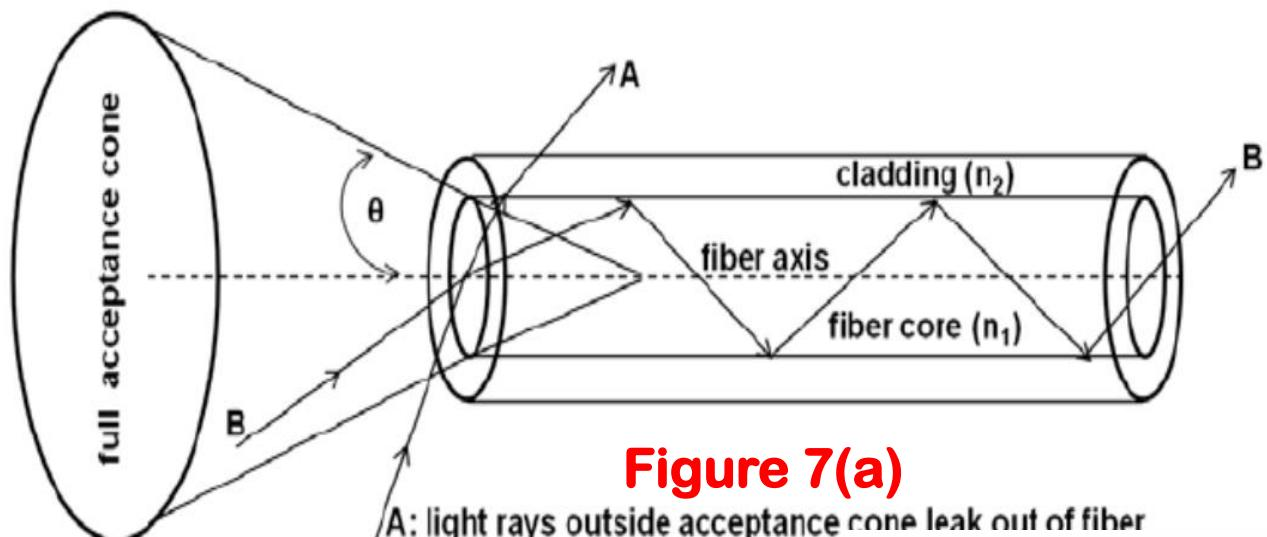

Figure 7(a)
- In 3D, the light rays, contained within the core having a full angle 2θ are accepted and transmitted along the fibre. This is called **Acceptance Cone (Figure 7)**. Light incident at an angle beyond θ_A refracts through the cladding and the corresponding optical energy is lost